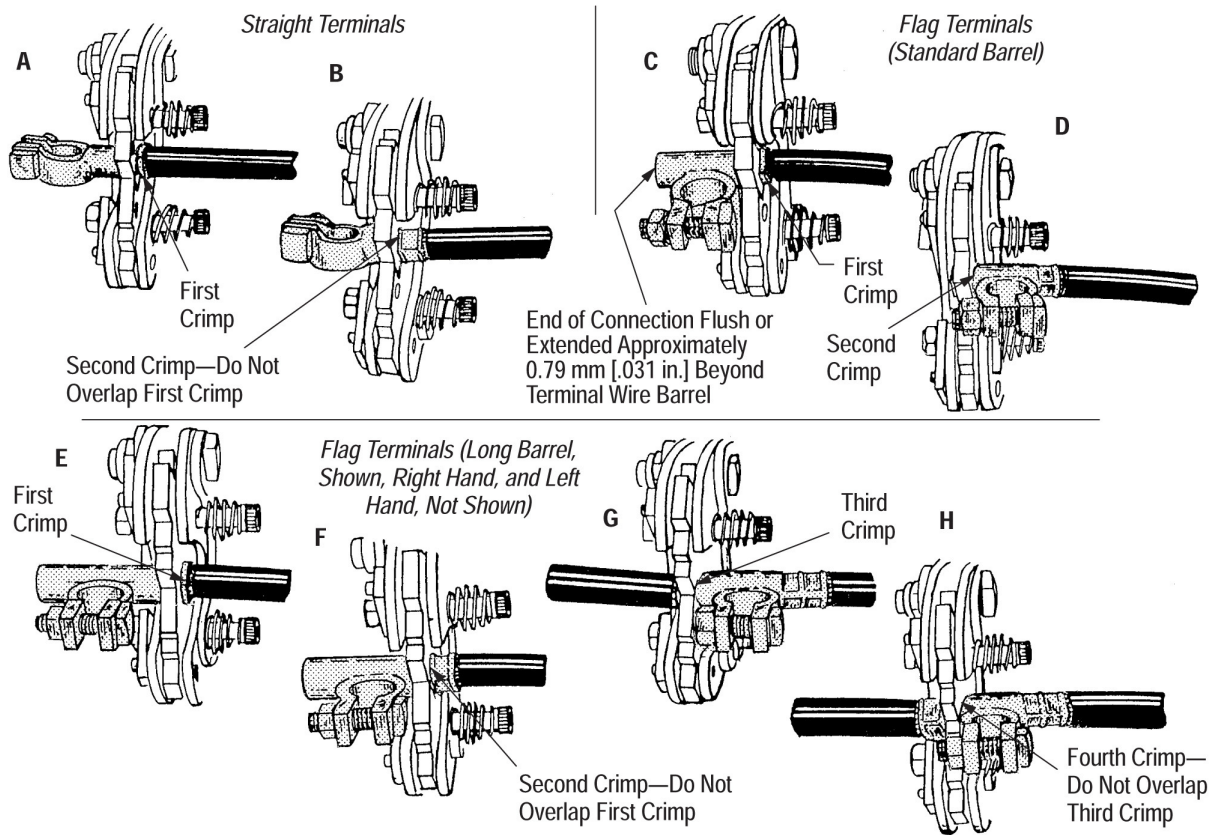

Figure 7
4.3. Crimping Straight Terminals (Figure 7)
4.4. Crimping Flag Terminals (Figure 7)
1. Orient and position the flag terminal in the tool dies as shown in Figure 7.
1. Move the flag terminal into position for the second crimp. Refer to Figure 7. Close the tool handles to complete the crimp.